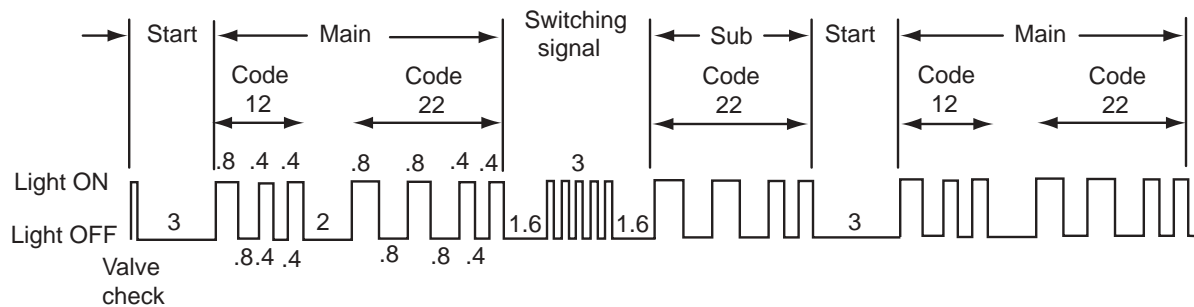

Figure 13-2 Trouble codes in main and sub processors obtained with engine running.
8. pauses for 3 seconds, and then repeats the cycle (Figure 13-2)